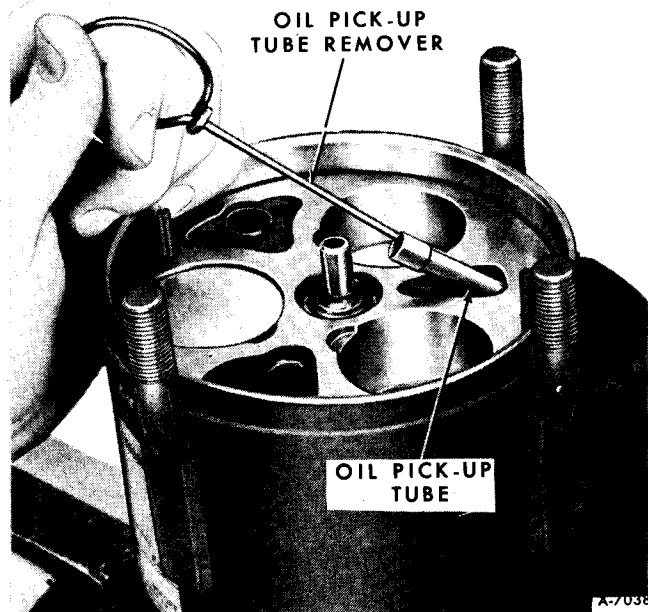

Figure 97—Removing Oil Pick-Up Tube
13. Using oil pick-up tube remover J-5139 (figure 97), remove oil pick-up tube. Remove O-ring from oil inlet.